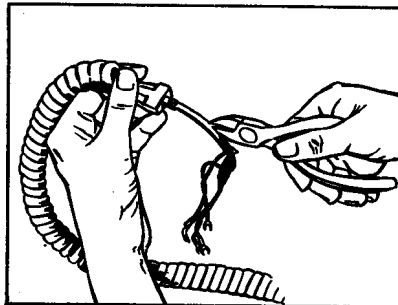

FIGURE 15. Slitting Sheath
- b. **Digitone:** The outer sheath of the handset cord must be cut back to within 1 inch of the handset grommet. (See Figures 15 and 16.) See Tables D and E for base and handset connections.